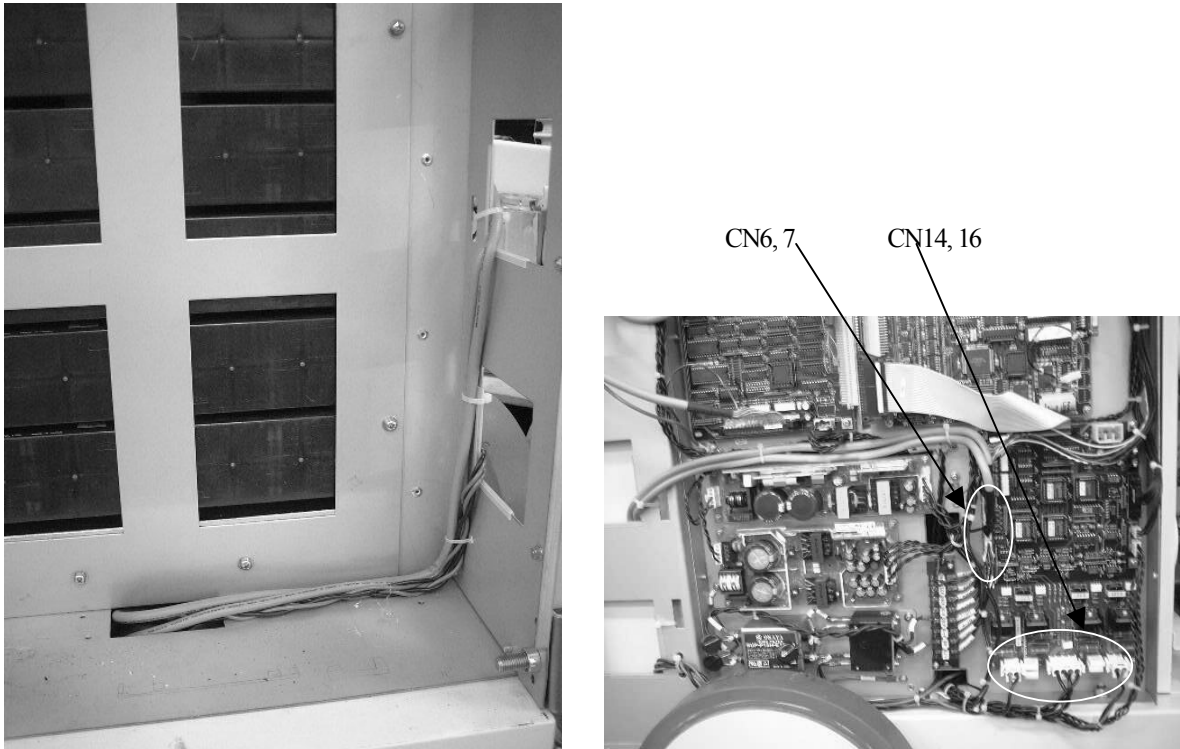

Fig. 6-60
14. Pass the cable through the motor mounting hole, apply wiring as shown in Fig. 6-60, and connect the wires to the MU DRIVER-2 PCB.